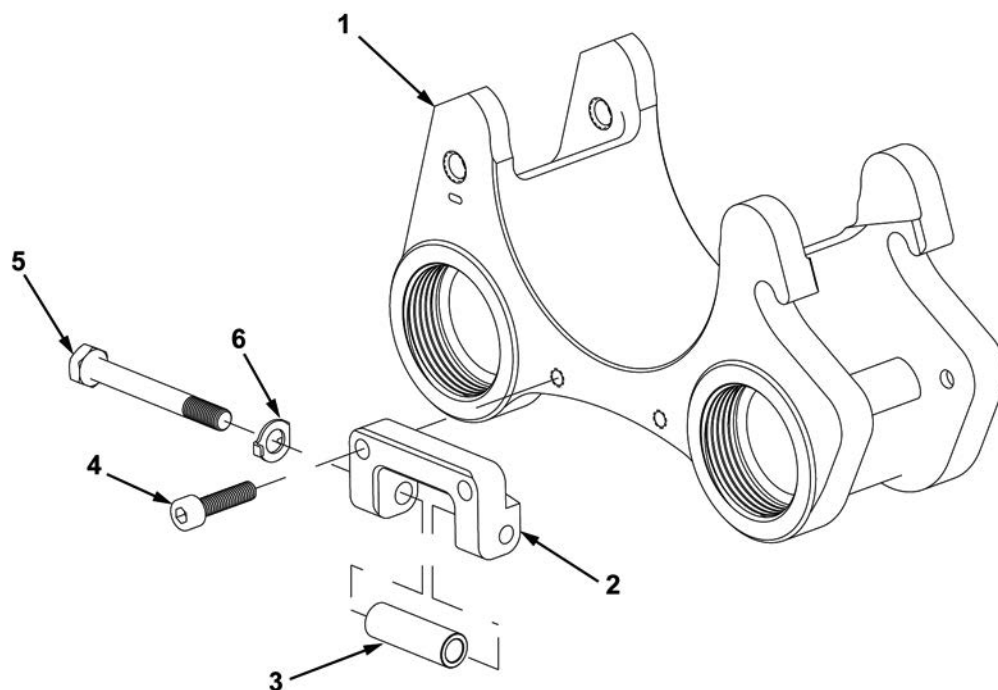

Figure 6. Assembly of Stowage Bracket.
1. Align sleeve spacer (Figure 6, Item 3) in mounting bracket (Figure 6, Item 2) and install new key washer (Figure 6, Item 6) and hexagon head capscrew (Figure 6, Item 5). Tighten screw until seated with no axial play. Bend key washer tab to secure.
2. Apply sealing compound (WP 0032, Item 22) to threads of two socket head capscrews (Figure 6, Item 4).
3. Align holes in mounting bracket (Figure 6, Item 2) with holes in lower clamp (Figure 6, Item 1) and install two socket head capscrews (Figure 6, Item 4). Tighten until seated.